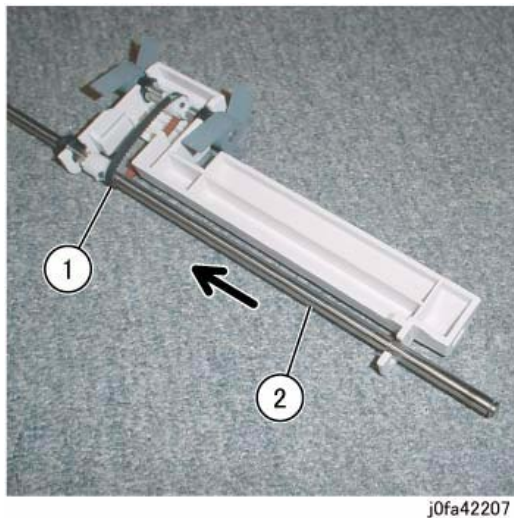

Figure 7 Removing Shaft Assembly (j0fa42207)
9. Remove the Shaft Assembly. (Figure 7)